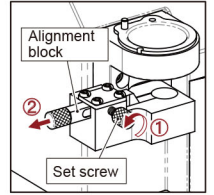

Fig. 3-1
1. Preset the position of the alignment block. (Fig. 3-1)
- ① Loosen the set screw.
- ② Pull out the alignment block to the end.